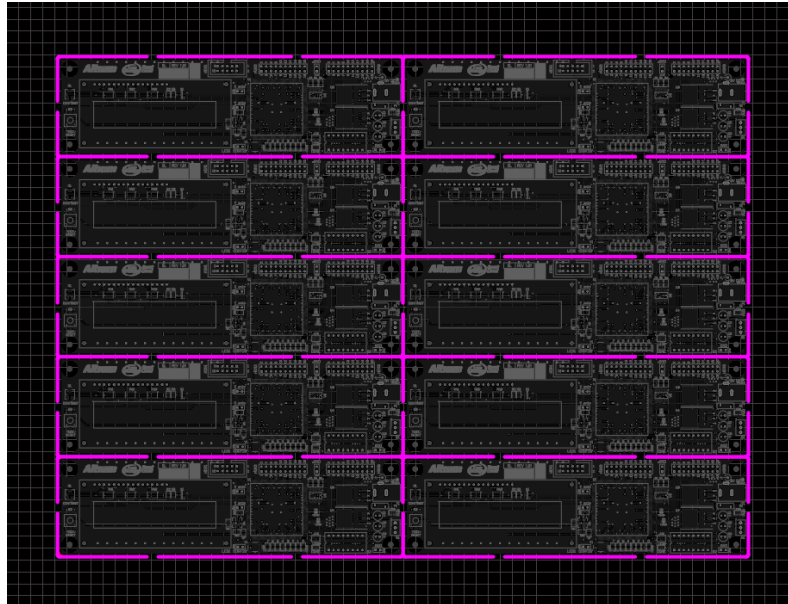

Figure 17. The Embedded Board Array with properly positioned slices in the route tool path
- b) Repeat the two vertical cuts for the second column of boards in the panel, Figure 17.